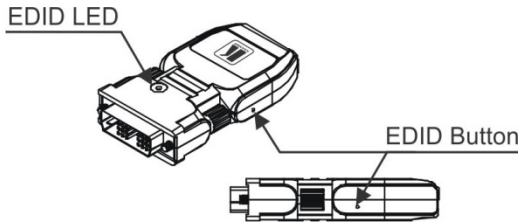

Figure 2: The Auto EDID Button on the 602T
3. Push the EDID button (illustrated in Figure 2), using a small screwdriver. The EDID LED flashes twice and turns off.